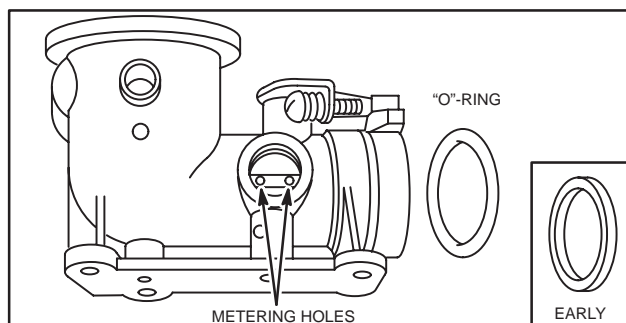

Fig. 226 – METERING HOLES AND “O”-RING, TYPICAL
1. Remove and discard “O”-ring, Fig. 226.
4. DO NOT ALTER SIZE OF HOLES, Fig. 226.